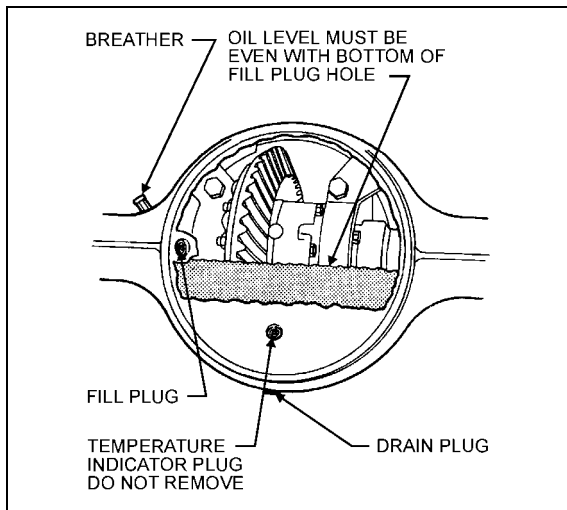

FIGURE 4: DIFFERENTIAL HOUSING BOWL 11007
In extreme conditions, or for better performance, fill with synthetic gear oil. Check oil level and add (if necessary) every 25,000 miles (40 000 km) or according to the fleet maintenance interval, whichever comes first (Fig. 4).
3. Clean the area around the fill plug. Remove the fill plug from the differential axle housing bowl (Fig. 4).